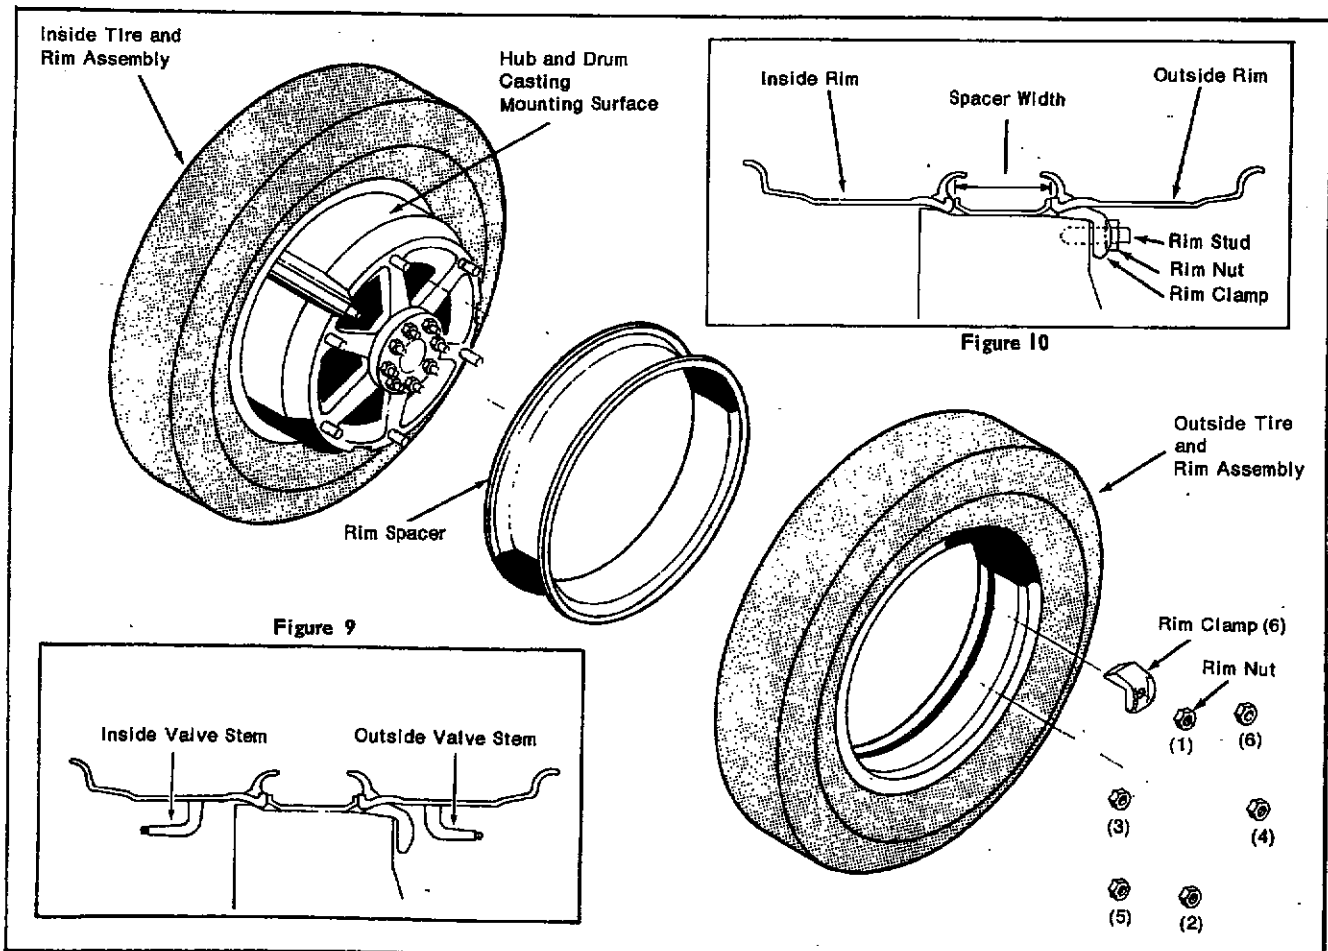

Figure 8
See Figure 8 for steps 1-7 except where otherwise stated.
2. Turn assembly over and break the back bead loose in same method as explained in Figure 8. Lift rim base from tire.